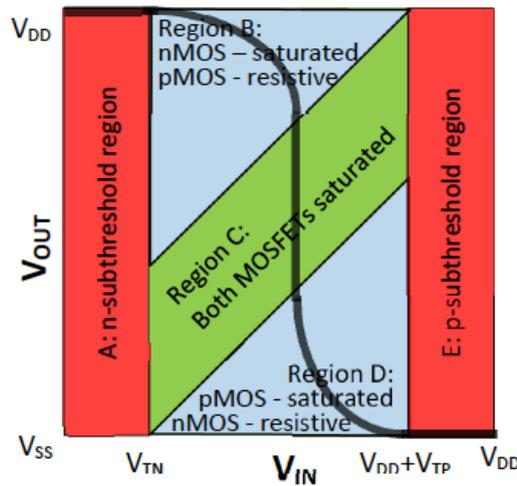

Figure 5.3: The CMOS inverter voltage transfer curve (VTC) with regions marked.
In Figure 5.1 you see the graphs of I_{DS} vs V_{OUT} , for the nMOS and pMOS FETs in a CMOS inverter. Match the three nMOS characteristics (a) through (c), shown to the left in Figure 5.1. with the pMOS characteristics, (d) through (f) that corresponds the same input voltage. Then mark the corresponding bias points in the three voltage transfer curves (g) through (i) to the right. For more details on the red, blue, and green VTC diagrams refer to Figure 5.3.
- In the diagram of CMOS inverter regions shown in Figure 5.3 mark each of these three bias points with B, C, or D, depending on the region of operation in the V_{OUT} vs V_{IN} graph to which they belong.
- Add a secondary axis representing the “short-circuit” current through the inverter as shown in Figure 5.3. Sketch the “short-circuit” current through the inverter vs. V_{IN} based on your knowledge about the current through the current-limiting MOSFET.